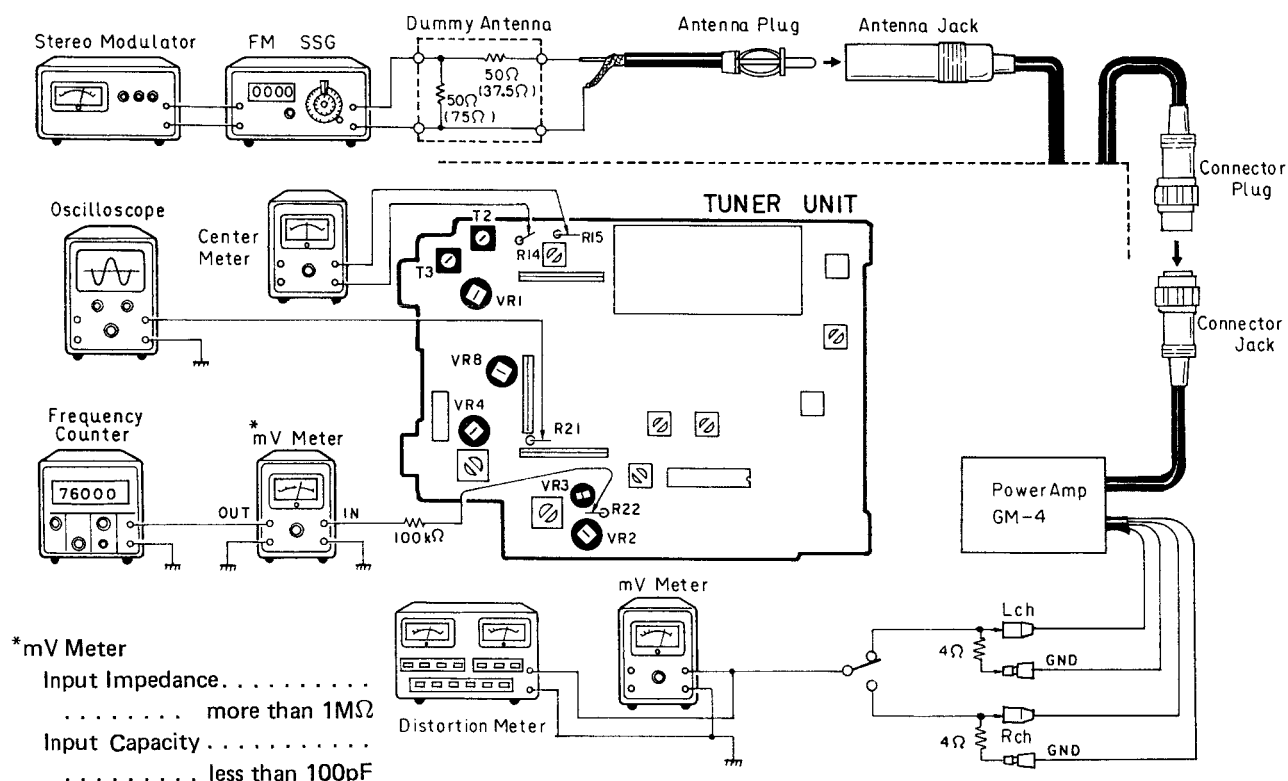

Fig. 17
• Connection Diagram (Shown in Fig. 17)